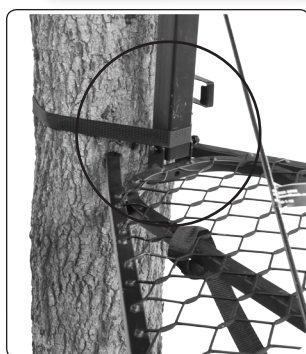

Figure 28
STEP 2: Wrap the ratchet around the tree trunk as shown in Figure 28. Thread the ratchet strap as shown in Figure 29.
STEP 3: Remove the slack from the ratchet strap. With the ratchet strap level and untwisted, tighten the strap by ratcheting the lever. Tighten the strap until it firmly secures the standing platform to the tree trunk as shown in Figure 28. Do not overtighten the ratchet strap.